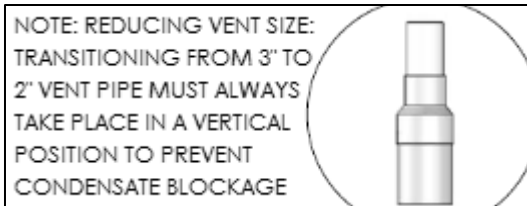

Figure 9 – Transitioning from 3" to 2" Vent Pipe
- For 2" diameter installations, install a reducing coupling in a vertical section of pipe ABOVE the pipe clamp installed on the water heater. See Figure 9.
5. For 2" installations, install the reducing coupling in a vertical section of pipe. At least a 6" length of 3" pipe MUST BE INSTALLED before reducing to 2". See Figure 9.